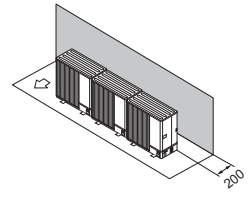

Fig. 2-12
- (1) Obstruction or closed surface at rear only (Fig. 2-12)